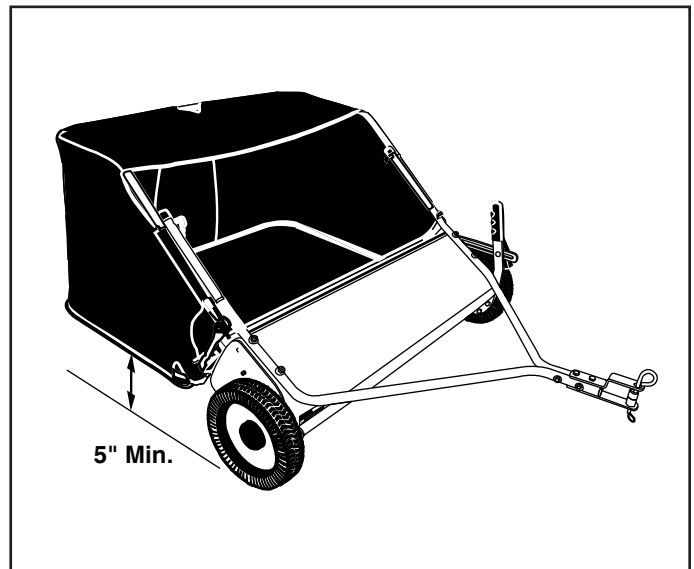

FIGURE 21
STEP 16: (SEE FIGURE 21, 22 AND 23)
IMPORTANT: For best performance, the bottom of the sweeper bag should be approximately level and 5" to 7" off the ground as shown in figure 21.